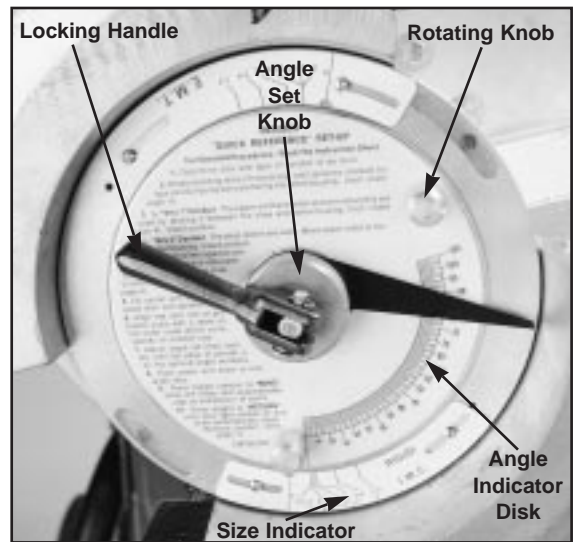

Figure 5. Set Angle Indicator
- a. Lift the angle knob locking handle (Figure 5). Use the two small knobs to rotate the angle disc, clockwise, until the red zero line is directly in line with the zero line on the size scale.
- c. Move the bend angle knob (Figure 5) until the flat edge of the pointer is on a line indicating the exact degree of bend desired. Lower the center handle to lock the pointer and scale and to prevent inadvertent movement during bending.